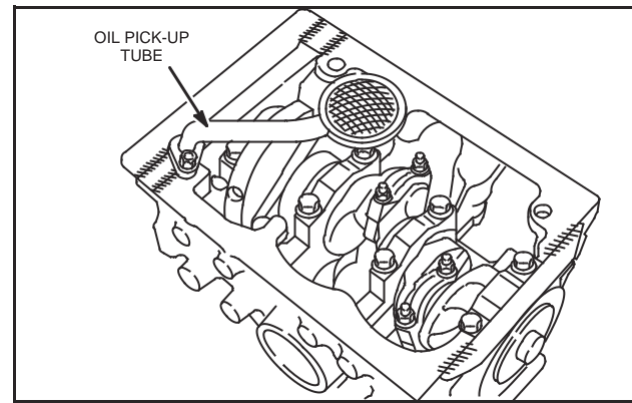

Fig. 7 – Removing Oil Pan
- b. Remove oil pick-up tube and strainer. Discard gasket, Fig. 7.